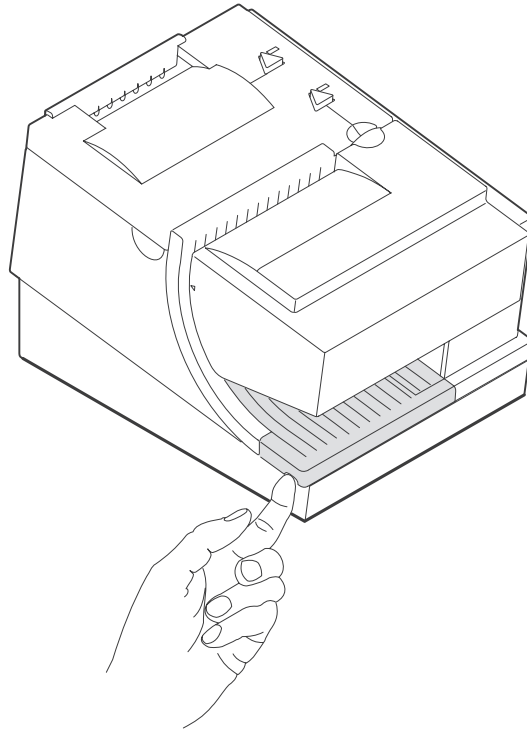

Figure 30. Removing the lower document insert cover
1. Lift up the left front corner of the lower document insert cover and pull the cover from the printer. (See Figure 30.)